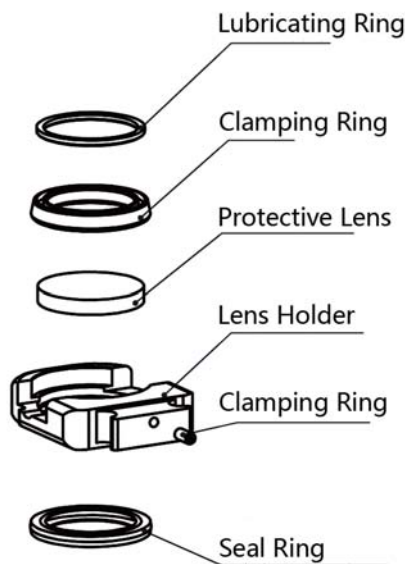

Figure 5.2 – Bottom Protective Lens Assembly Structure
- As shown in Figure 5.2, open the lid to pull out cover glass holder by pinching 2 edges of drawer holder.